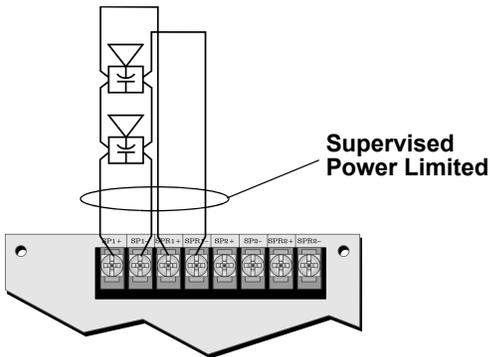

Figure 6: Class A (Style Z) Speaker Configuration
4. To wire speaker circuits to the control panel in a Class A (Style Z) configuration see Figure 6.